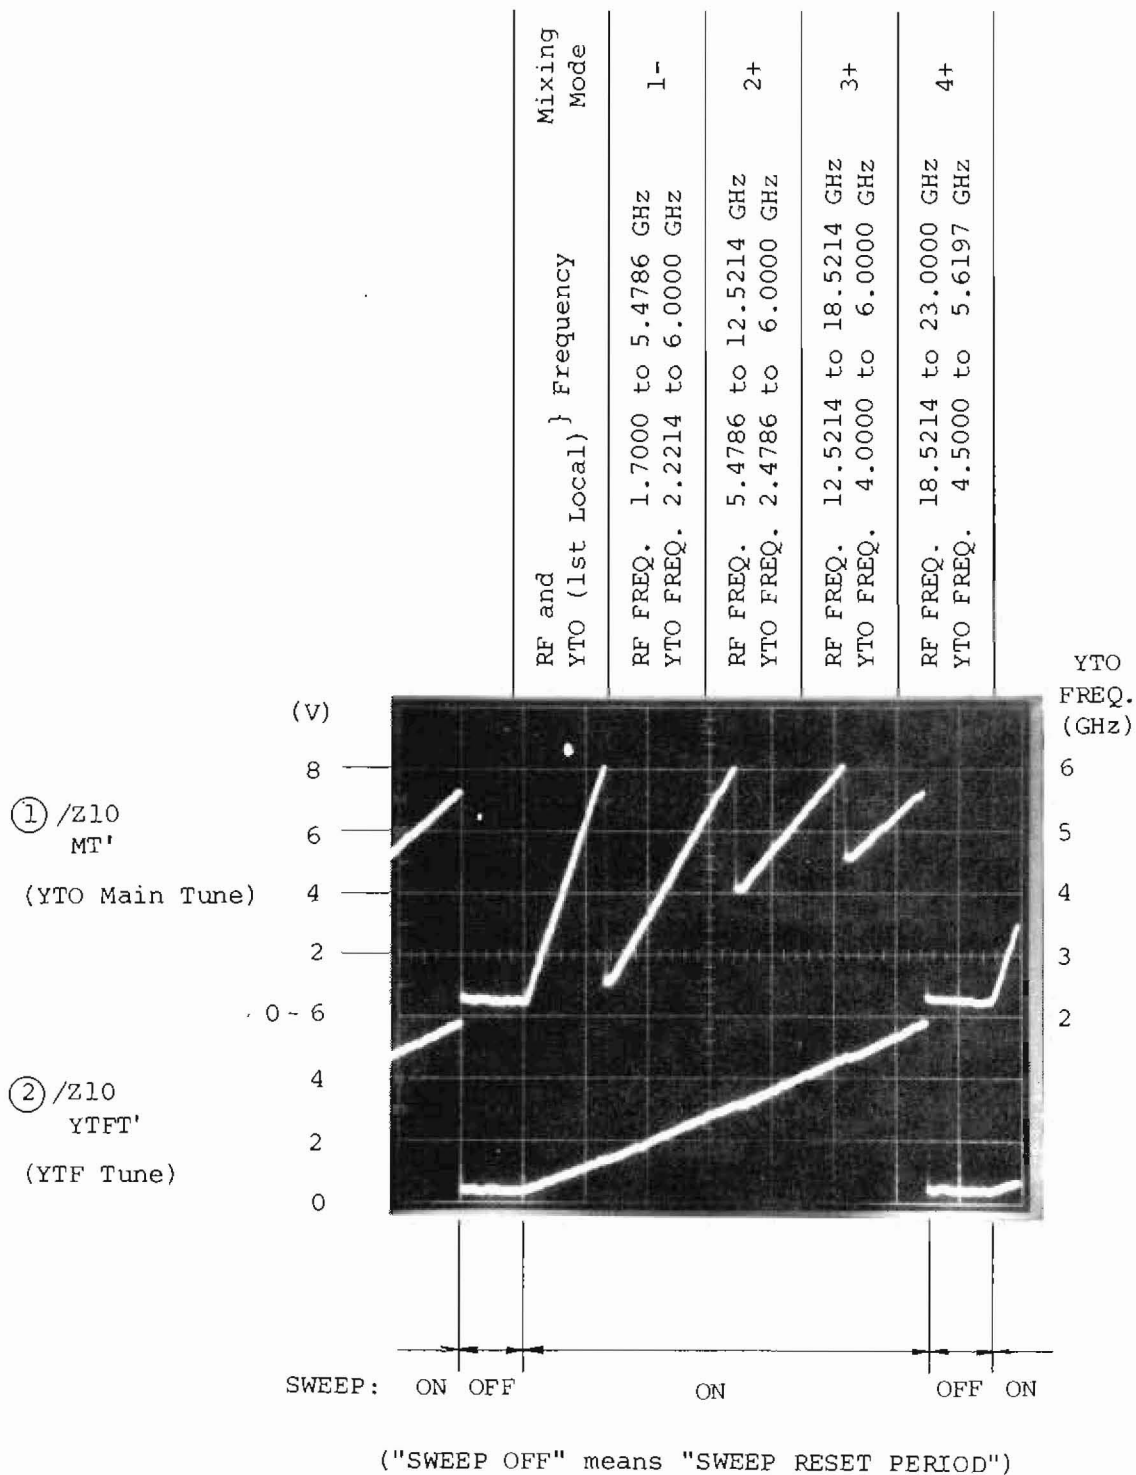

Fig. 5-12 YTO and YTF Tuning Signal during POWER ON RESET Status (1.7 to 23 GHz Full Band Sweep Status)
3.	Observe the voltage of Z10 checkpoints ① and ② (Figs. 5-16 and 5-17) on the oscilloscope and confirm as shown in Fig. 5-12.  If this signal is abnormal, the Z21 local control circuit is assumed to be faulty.  Note: Make sure that the voltage at checkpoints ① and ② is 1.7% and 5% less than that of the MT voltage and YTFT voltage, respectively.